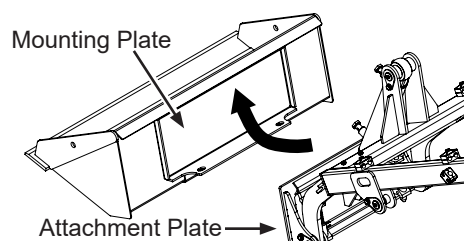

Fig. 15
4. Position the mount plate into the upper lip of the attachment receiver plate (Fig. 15).